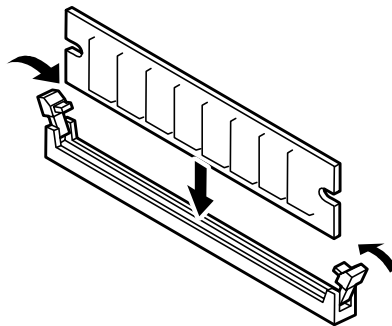

Figure 4-33. Installing Memory DIMMs
10. Press down evenly on the DIMM until it seats correctly. The retaining levers (see Figure 4-33) on the sockets are not "tools" to aid in the insertion, only to keep the DIMMs in place and to aid in extraction. The levers will automatically close in place once the DIMM is fully inserted into the socket.